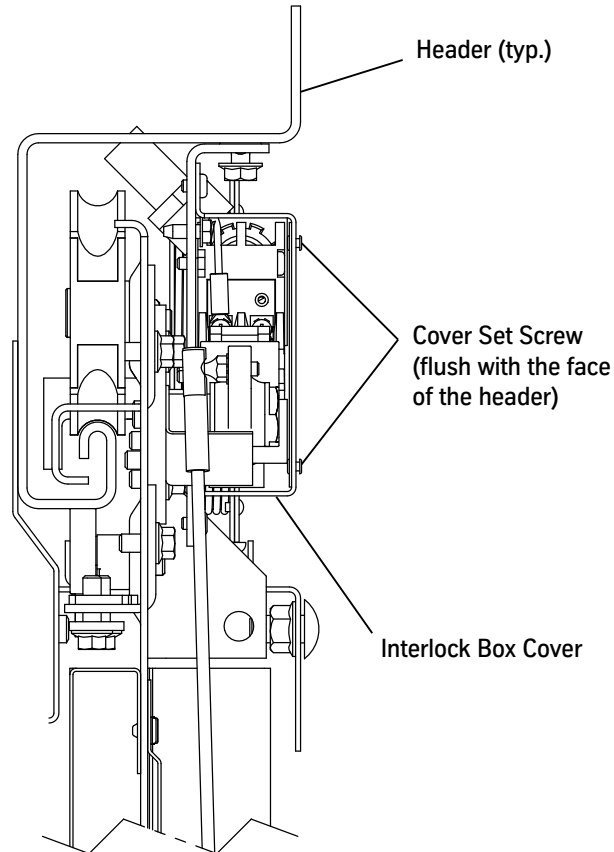

Figure 67 - Install the Door Interlock
1. Install the interlock contact box. Evenly align the cover screws with the face of the header. See Figure 67 on page 92.